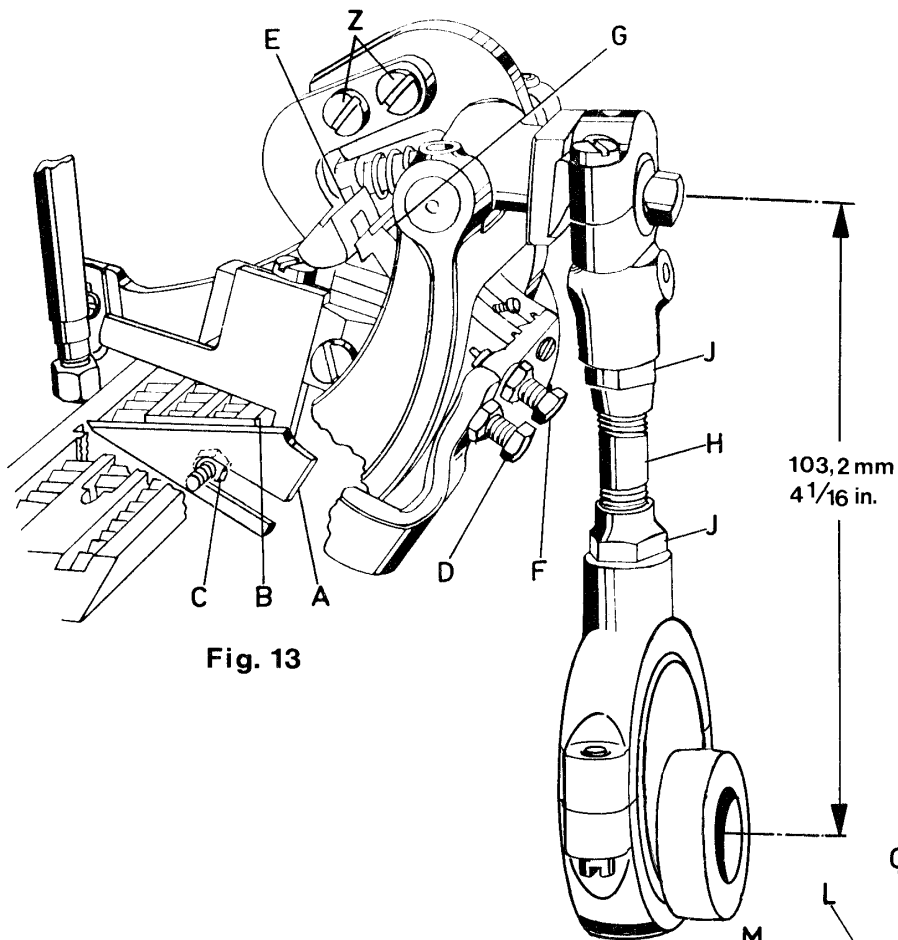
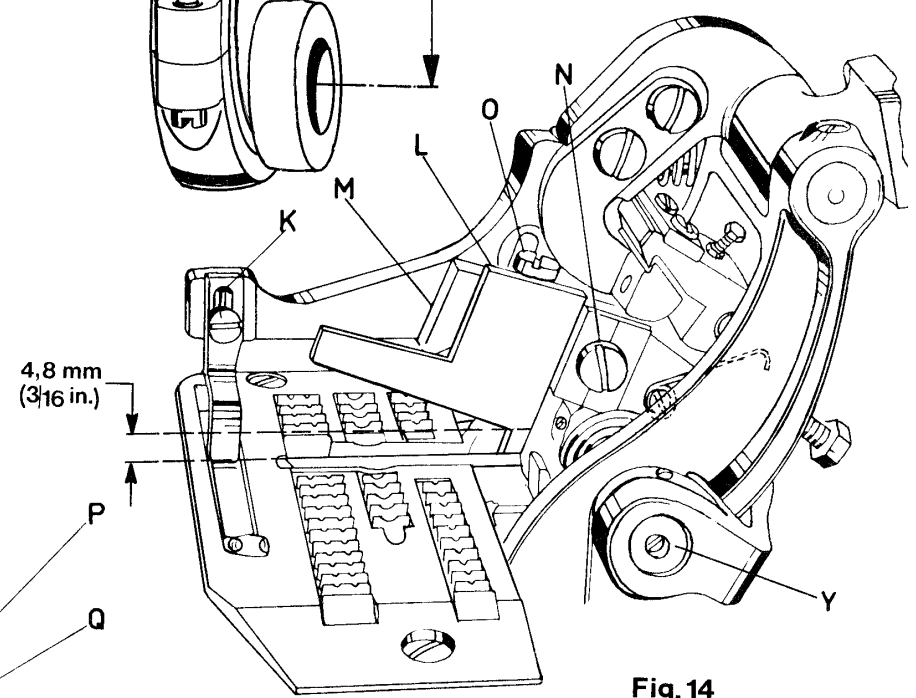
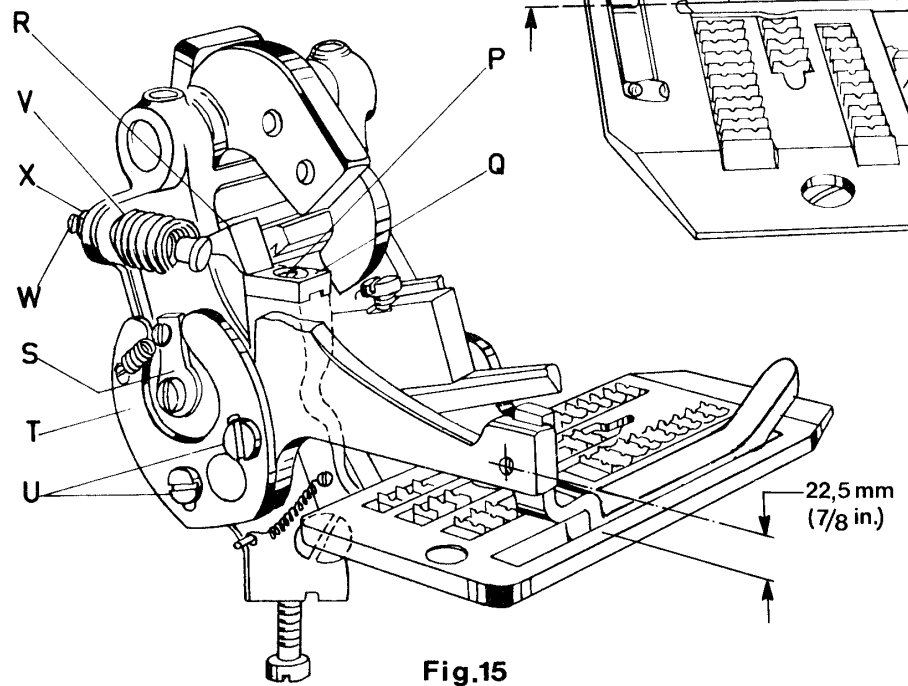

Fig. 13
Fig. 14
Fig. 15
2. Lay the throat plate temporarily on its seat. Loosen the hexagonal head adjusting screw (D, Fig. 13) and set so that the distance between top surface of throat plate and the center of thread hole for fastening the actuating shoe is 22.5 mm (7/8 in.) (see Fig. 15). Retighten screw (D, Fig. 13) with lock nut.
3. Set the lower knife (A, Fig. 13) so that the cutting edge is even with the top of throat plate (B) and tighten it in this position with the hexagonal head screw (C). Reassemble needle guard, feed dog and throat plate.
4. Assemble actuating shoe (K, Fig. 14) and set it so that the top surface of actuating shoe is even with the top surface of throat plate.
5. With a screwdriver, press the spring loaded knife lever shaft (Y, Fig. 14) to the rear and insert upper knife (L) in upper knife lever (M). Raise the upper knife as high as it will go, until the back of the knife cutting edge stops on the knife lever. Tighten the clamp screw (N) slightly.
6. Loosen screw (P, Fig. 15) and move shoe (Q) to extreme left. Turn handwheel until pawl (E, Fig. 13) is at its lowest position. Turn screw (F) until the edge of ratchet block (G) snaps over the edge of pawl (E), then add 1/4 to 1/2 turn more to ensure adequate clearance under operating conditions. Retighten the lock nut of the screw (F). If screw (F) is turned too far the mechanism will not work. Small differences can be equalized when loosening screws (Z) and adjusting the pawl (E) accordingly. Retighten screws (Z) firmly.
7. Move shoe (Q, Fig. 15) to the right so that pawls (R) will rest on the extreme right end of shoe. Shoe should have polished end to the right and point of pawls may overlap slightly over outside to insure trigger action during operation of machine.
2. Deje la plancha de aguja momentaneamente en su sitio. Suelte los tornillos de cabeza hexagonal (D, Fig. 13) y ajústelos de manera que la distancia entre la superficie superior de la plancha de aguja y el centro del hueco del pasahilo que asegura la lengüeta sea de 22,5 mm (Ver Fig. 15). Vuelva a ajustar el tornillo (D, Fig. 13) con la arandela de seguridad.
3. Ajuste la cuchilla inferior (A, Fig. 13) de manera que el borde de corte quede al ras con la parte superior de la plancha de aguja (B) y ajuste en su posición el tornillo de cabeza hexagonal (C). Monte de nuevo el guarda agujas, el diente de alimentación y la plancha de aguja.
4. Vuelva a montar la lengüeta de accionamiento (K, Fig. 14) y ajústela de manera tal que quede al ras con la parte superior de la plancha de aguja.
5. Con un destornillador, empuje el resorte inserto en el soporte de la cuchilla (Y, Fig. 14) hacia atrás e inserte la cuchilla superior (L) en el soporte de la cuchilla superior (M). Suba la cuchilla superior hasta su punto mas alto, hasta que la parte posterior del borde la cuchilla pare en el sujetador de la cuchilla. Asegure el tornillo sujetador (N) ligeramente.
6. Suelte el tornillo (P, Fig. 15) y mueva la lengüeta (Q) a la extrema izquierda. Gire el volante hasta que el diente de encaje (E, Fig. 13) llegue a su posición mas baja. Gire el tornillo (F) hasta que el borde del reten (G) se cierre sobre el borde del diente de encaje (E). Agregue 1/4 a 1/2 vuelta al tornillo (F) para asegurarlo en condiciones de operación. Asegure nuevamente la arandela de seguridad sobre el tornillo (F). Si el tornillo (F) se aprieta demasiado, el mecanismo no funcionará. Pequeñas diferencias pueden ser ajustadas soltando un poco los tornillos (Z) y ajustando el diente de encaje (E). Reasegure de nuevo los tornillos (Z) firmemente.
7. Mueva la lengüeta (Q, Fig. 15) hacia la derecha de manera que el diente de encaje (R) descansa en la extrema derecha de la lengüeta. La lengüeta debe haber sido pulida para que el deslizamiento sea mas suave y se asegure el accionamiento del disparo durante la operación de la maquina.
8. When acutating shoe (K, Fig. 1e) is raised slightly, trip dog (S, Fig. 15) should allow pawl (R) to slide off shoe (Q) and the cutting action is released within 1 1/2 turn or less of the handwheel.
Raise actuating shoe (K, Fig. 14) slightly and turn handwheel in operating direction until upper knife (L) is in its lowest position. Left at the tip of the knives, the cutting edge of the upper knife should overlap the cutting edge of the lower knife by 1 mm (.040 in.)
When open there should be about 4.8 mm (3/16 in.) opening, right at the pilot of the upper knife (see Fig. 14).
NOTE: When the knives (A, Fig. 13) and L, Fig. 14) are resharpened, their adjustment is maintained by only raising and lowering them in their holders, according to the stock removed while grinding.
9. The position of the tape cutter actuating shoe (K, Fig. 14) determines the length of tape extending beyond the bag at the start of closure. The extending length of tape at the finish of closure is not adjustable.
Also the trip dog operating cam (T, Fig. 15) can be retarded or advanced to vary the length of the tape at the start of closure. Loosen screws (U) and turn the operating cam (T) toward the handwheel end of machine to shorten the xtending length of tape and in the opposite direction to lengthen it. Retighten screws (U).
The actuating shoe tension spring (V, Fig. 15) is adjustable vor various weights of material. Use screw (W) and lock nut (X) to make this adjustment. The tension should be just strong enough to press the actuating shoe down, back to its home position.
8. Cuando la lengüeta de accionamiento (K, Fig. 14) está subiendo suavemente, la punta del diente (S, Fig. 15), deberá permitir que el diente de encaje (R) deslice sobre el patín (Q) y la cuchilla cortará la cinta en 1 1/2 vueltas o menos del volante.
Eleve la lengüeta de accionamiento (K, Fig. 14) ligeramente y gire el volante en sentido de operación hasta que la cuchilla superior (L) llegue a su posición mas baja. A la izquierda de la punta de la cuchilla, el borde cortante de la cuchilla superior debe sobrepasar el borde cortante de la cuchilla inferior por 1 mm.
Cuando las cuchillas esten abiertas a su maximo recorrido, deberia haber una distancia de 4,8 mm (ver Fig. 14) justo en el soporte de la cuchilla superior.
NOTA: Cuando las cuchillas (A, Fig. 13) y (L, Fig. 14) sean afiladas, su ajuste se logra subiendo y bajandolas en sus soportes. Se recomienda sacalas para ser afiladas.
9. La posición de la lengüeta de accionamiento del cortador de cinta (K, Fig. 14) determina el largo de la cinta que sobresale en el saco al comienzo del cierre. La cinta sobrante al final del saco no es ajustable.
También el diente de operación del alimentador (T, Fig. 15) puede ser retrasado o adelantado para variar el largo de la cinta al comienzo del saco. Suelete los tornillos (U) y gire el diente de operación (T) hacia el volante al final de la maquina para acortar el largo de la cinta y en sentido contrario para alargarlo. Reasegure los tornillos (U) nuevamete.
El muelle de accionamiento (V, Fig. 15) es ajustable para los distintos gruesos del material. Este ajuste se realiza por medio del tornillo (W) y la contra tuerca (X). La tensión debe ser lo suficiente para presionar el diente de operación hacia abajo, de regreso a su posición original.